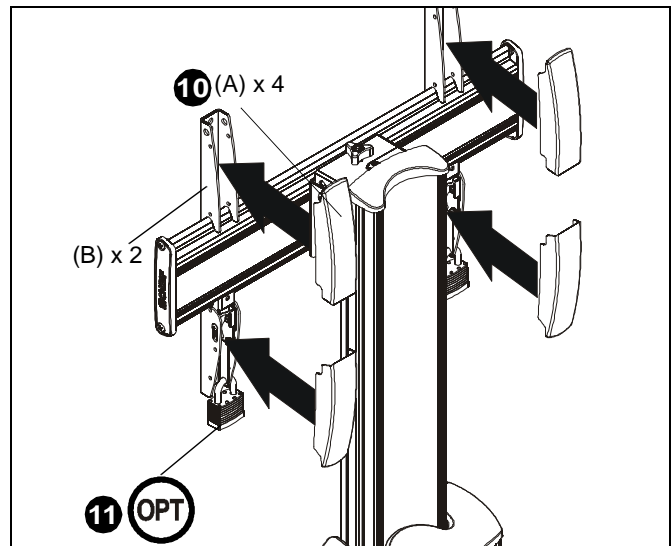

Figure 8
10. Snap four upright covers (A) onto uprights. (See Figure 8)
**NOTE:** Tabs on inside of covers (A) will snap directly into holes on uprights to ensure a secure connection.
11. (Optional) Use padlocks (not provided) to secure uprights to head assembly. (See Figure 8)